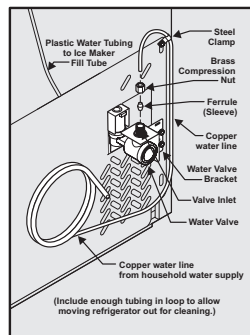
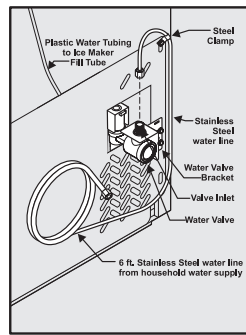

Figure 1
Figure 2
- If you use copper tubing - Slide brass compression nut, then ferrule (sleeve) onto water supply line. Push water supply line into water valve inlet as far as it will go ($\frac{1}{4}$ inch/6.4 mm). Slide ferrule (sleeve) into valve inlet and finger tighten compression nut onto valve. Tighten another half turn with a wrench; DO NOT overtighten. See Figure 1. If you use stainless steel tubing - The nut and ferrule are already assembled on the tubing. Slide compression nut onto valve inlet and finger tighten compression nut onto valve. Tighten another half turn with a wrench; DO NOT overtighten. See Figure 2.